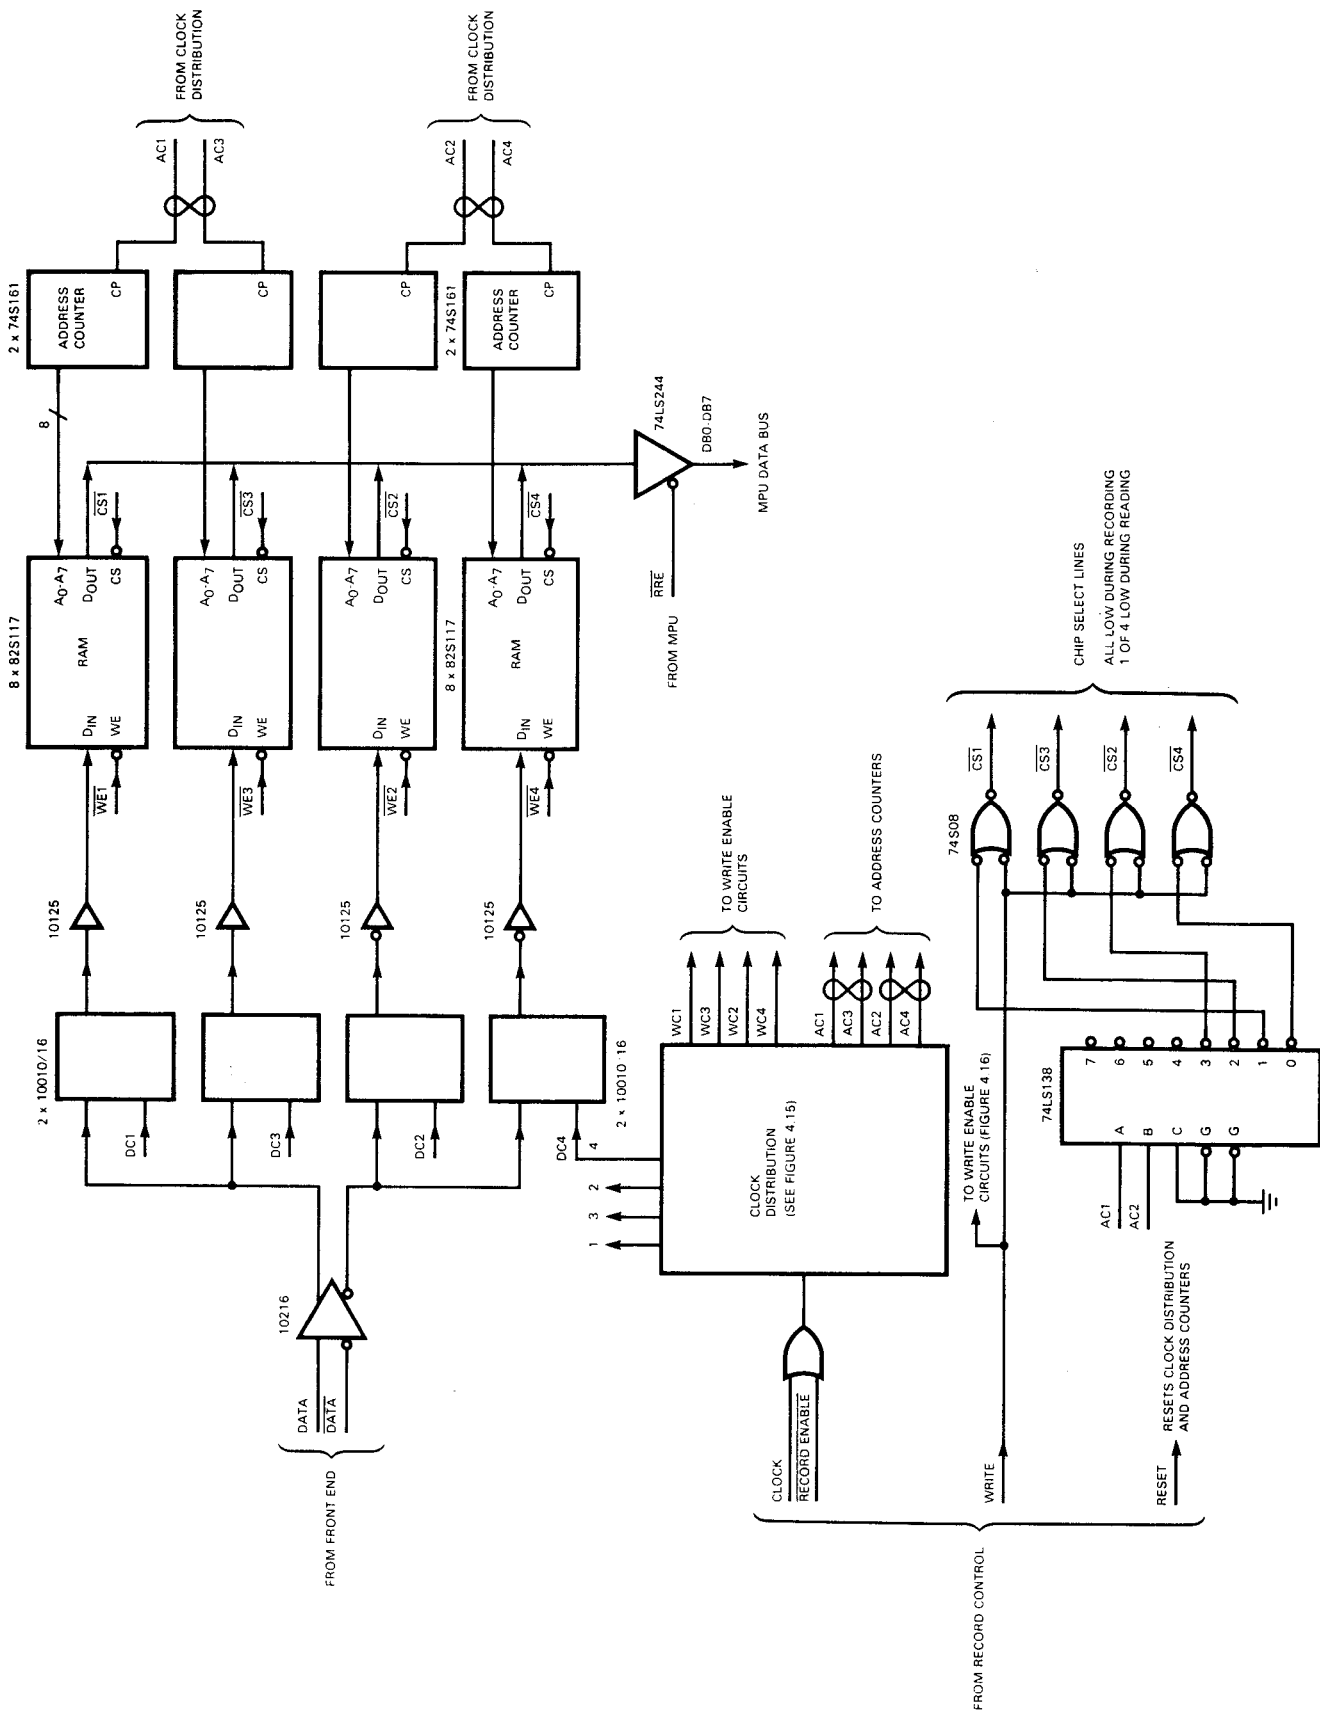

Figure 4.14 Block Diagram of Record Memory Board
4.6.1 A block diagram of the Record Memory board is shown in Figure 4.14. The basic memory element used on this Memory board is a 256 x 1 TTL RAM of the 82S117